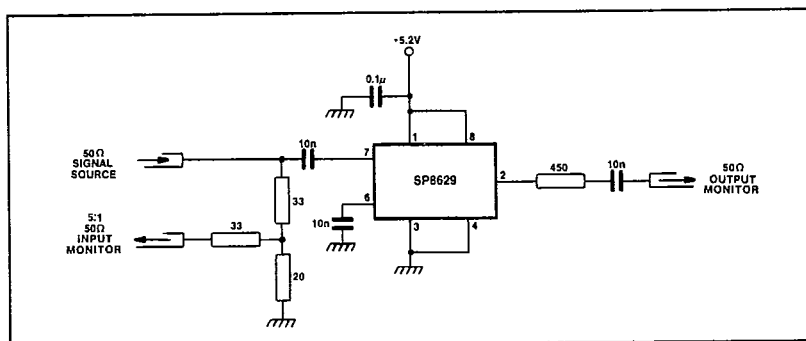

Fig.5 Test circuit
2. The dynamic test circuit is shown in Fig.5.